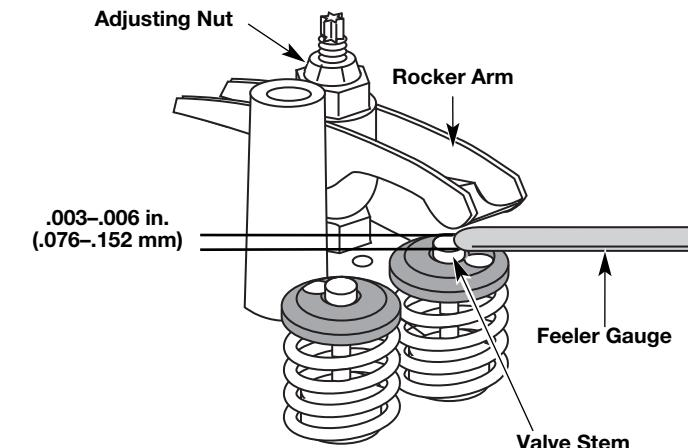

**Fig. 40**
- The piston is at the top of its travel while looking in the spark plug hole (Fig. 40)
valve stem and rocker arm (Fig. 40). Measure both the intake and exhaust valves.
The recommended clearance for both intake and exhaust is .003 – .006 in. (.076 – 0.152 mm). Use a standard automotive .005 in. (0.127 mm) feeler gauge. The feeler gauge should slide between the rocker arm and valve stem with a slight amount of resistance, without binding. See Figures 40 and 41.
- a. Turn the adjusting nut using a 5/16 inch (8 mm) wrench or nut driver (Fig. 40).